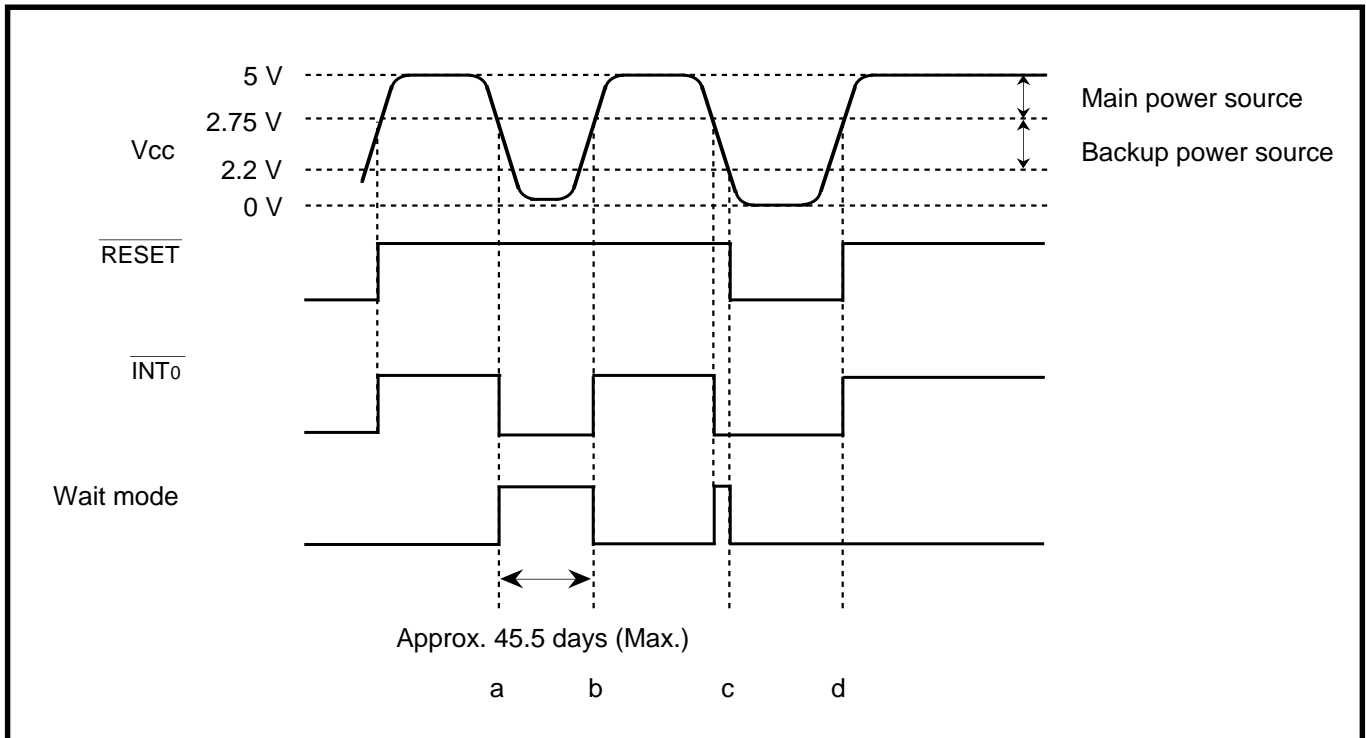

Fig. 17.5.2 Timing chart
(1) Specifications
- ① Main power source = 5 V to 2.75 V. Backup power source = 2.75 V to 2.2 V
- ② Timer B2 uses the sub clock (32.768 kHz) divided by 32 as the count source and counts the time up to 1 minute.
- ③ Timer B2 counts the power-source-off time up to the maximum of approximate 45 days, checking the timer B2's overflow signal.
- ④ The clock counter is counted up each time timer B2 interrupt occurs, in other words, every 1 minute.
- ⑤ When V_{CC} is less than 2.75 V, in other words, when the main power source is off, the $\overline{INT0}$ input's level changes from "H" to "L" and the microcomputer enters the wait mode at this falling edge. (Refer to "a" in Figure 17.5.2.)
- ⑥ In the wait mode ($V_{CC} = 2.2$ V or more), only timers B2 and B1 do counting. (In this case, note that clock display is disabled and the timer B2 and B1 interrupts are disabled.)
- ⑦ When $V_{CC} = 2.75$ V or more in the wait mode, in other words, when the main power source is on, the $\overline{INT0}$ input's level changes from "L" to "H" and the wait mode is terminated at the $\overline{INT0}$ input's rise. (Refer to "b" in Figure 17.5.2.) At this time, the following is done according to the timer B1's state.
- ⑧ When $V_{CC} = 2.2$ V or less, the microcomputer enters the reset state owing to the power source detection circuit. (Refer to "c" in Figure 17.5.2.) And then, when $V_{CC} = 2.75$ V or more, the microcomputer is released from reset state. (Refer to "d" in Figure 17.5.2.)